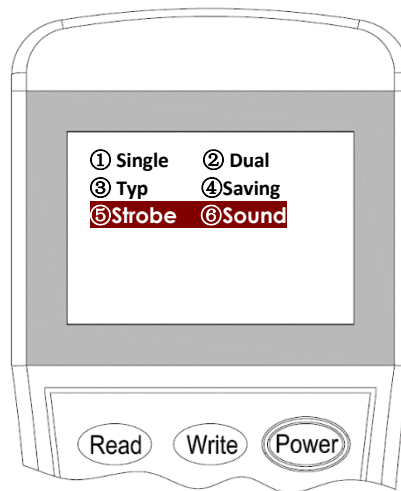

Figure 13
3. Input the **“5”** for **Strobe** type or **“6”** for **Sounder** type, then press **“Write”** to change the setting into the desire mode (Figure 13).